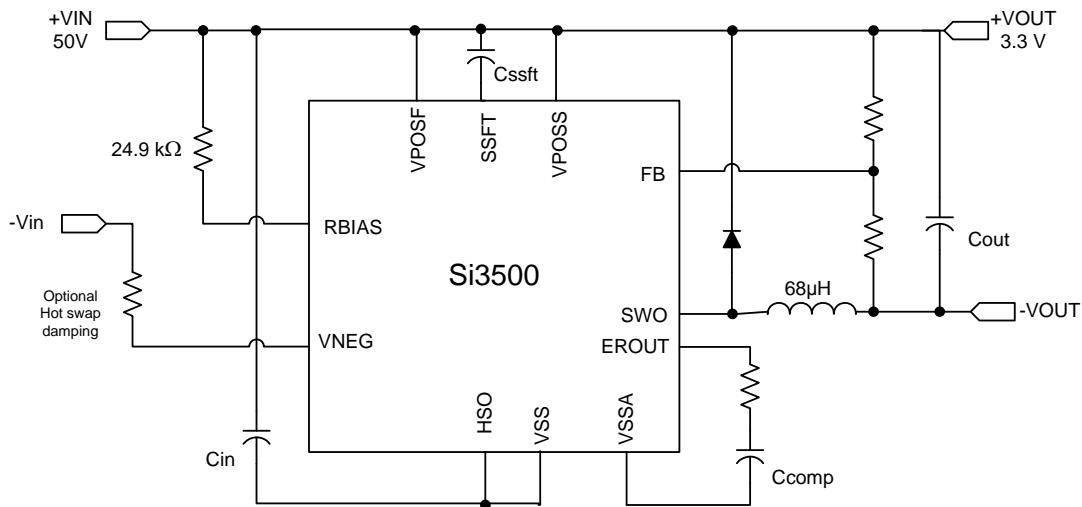
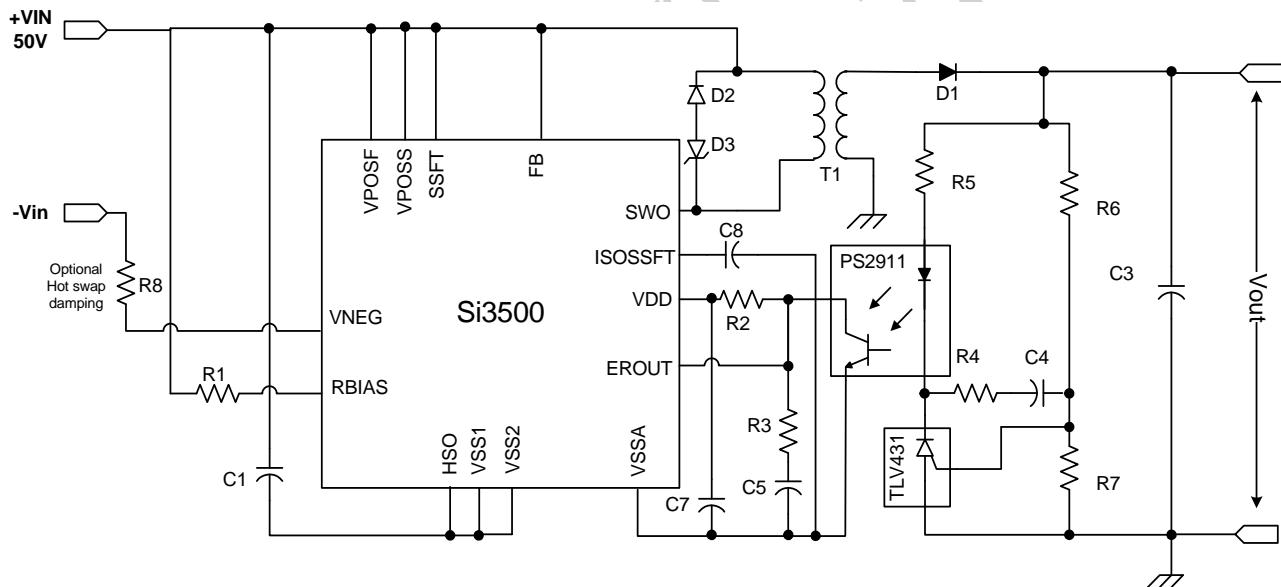
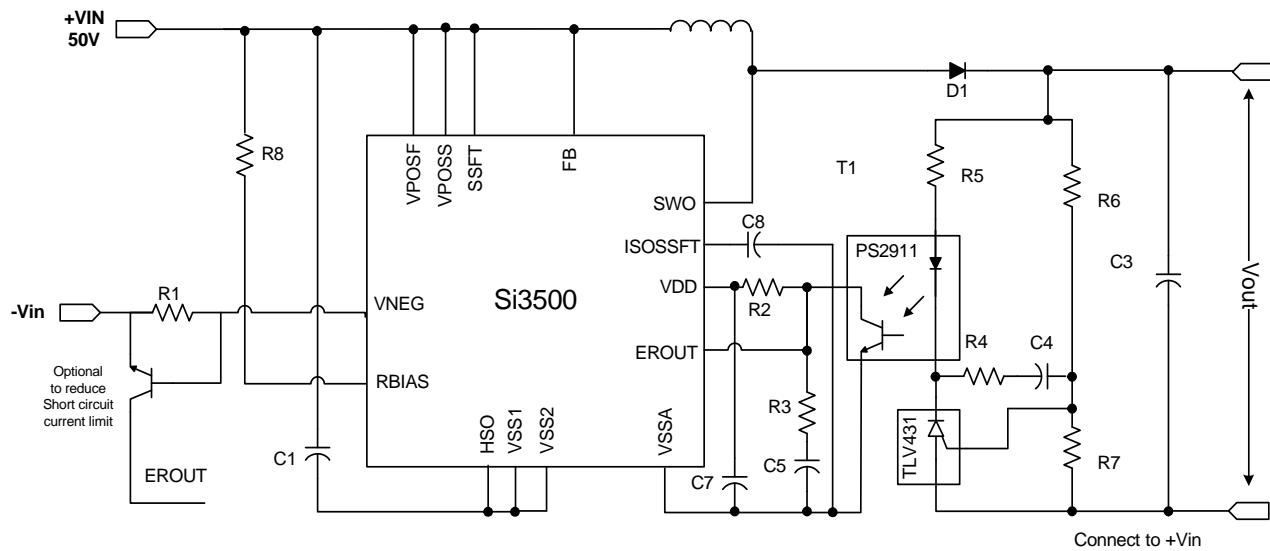

Figure 1. Schematic (Non-Isolated 3.3 V Output)*
Figure 2. Schematic (Isolated 3.3 V Output)*
Figure 3. Schematic—Non-Isolated 3.3 V Output*
- Applies to non-isolated applications only (VOUT on schematic in Figure 1).
The application determines the converter topology. An isolated application will require a flyback transformer-based switching topology while a non-isolated application can use an inductor-based buck converter topology. In the isolated case, dc isolation is achieved through a transformer in the forward path and a voltage reference plus opto-isolator in the feedback path. The application circuit shown in Figure 2 is an example of such a topology. The non-isolated application in Figure 1 makes use of a single inductor as the energy conversion element, and the feedback signal is directly supplied into the internal error amplifier. The approach shown in Figure 3 is for a non-isolated application where the output is more positive than the input.